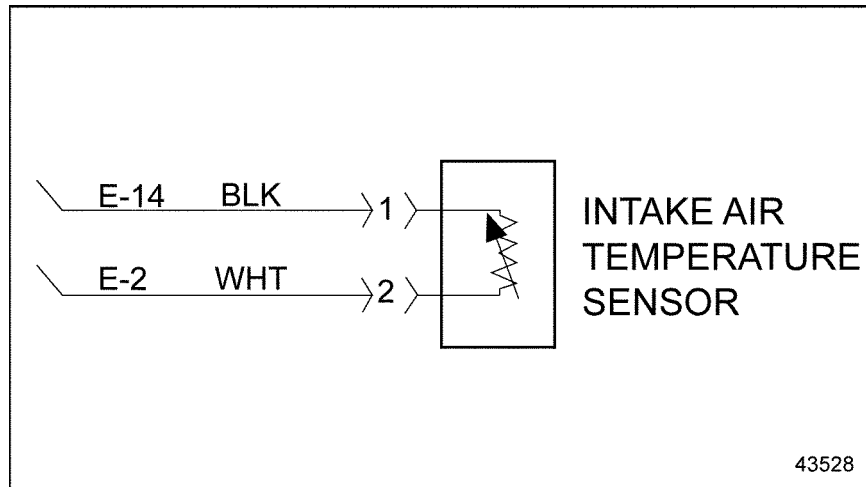

Figure 31-4 Intake Air Temperature Sensor
5. Check terminals at the ATS/IAT Sensor connector (both sensor and harness side) for damage; bent, corroded and unseated pins or sockets. See Figure 31-4.